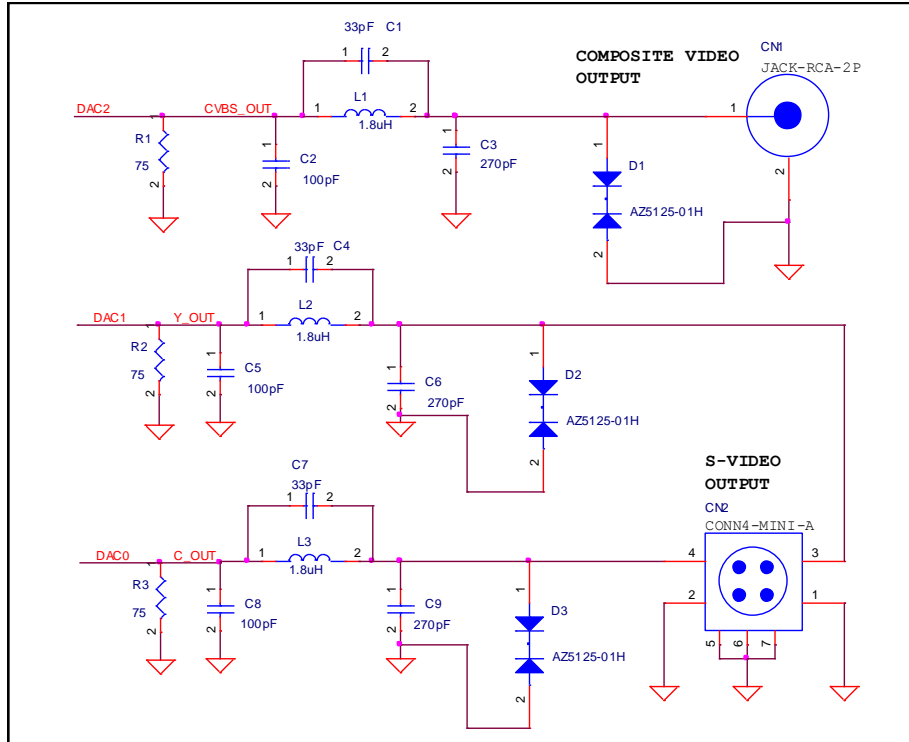

Figure 7: CH7105B SDTV output
DAC2 on-chip 9-bit high speed provides CVBS output. If the DAC require a double termination, A 75 Ω resistor should be placed between each DAC pin and the ground as shown in **Figure 7**. (Refer to **Figure 7**)
DAC1 (Y) and DAC0(C) on-chip 9-bit high speed provides S-Video output. If the DACs require a double termination, A 75 Ω resistor should be placed between each DAC pin and the ground as shown in **Figure 7**. (Refer to **Figure 7**)